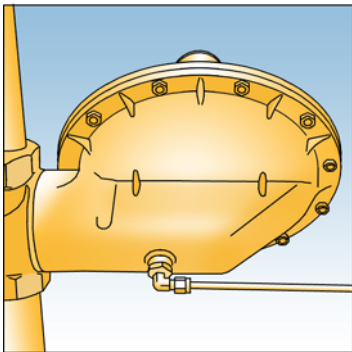

Fig. 4
2. Connect the impulse line (1/2"), using a jointing compound approved to national standards, and lead to a point downstream not less than fifteen times the nominal pipe diameter from the outlet. See Fig. 4.